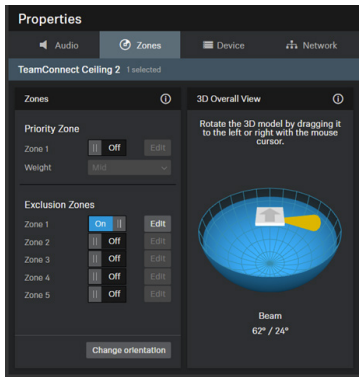

Figure 6. Control Cockpit Zones Tab
2. Under the Zones tab, the 3D Overall View shows the real-time focus of the TCC2 automatic beam-steering (see figure 6 on page 6). Users can manually enable a Priority or Exclusion Zone.